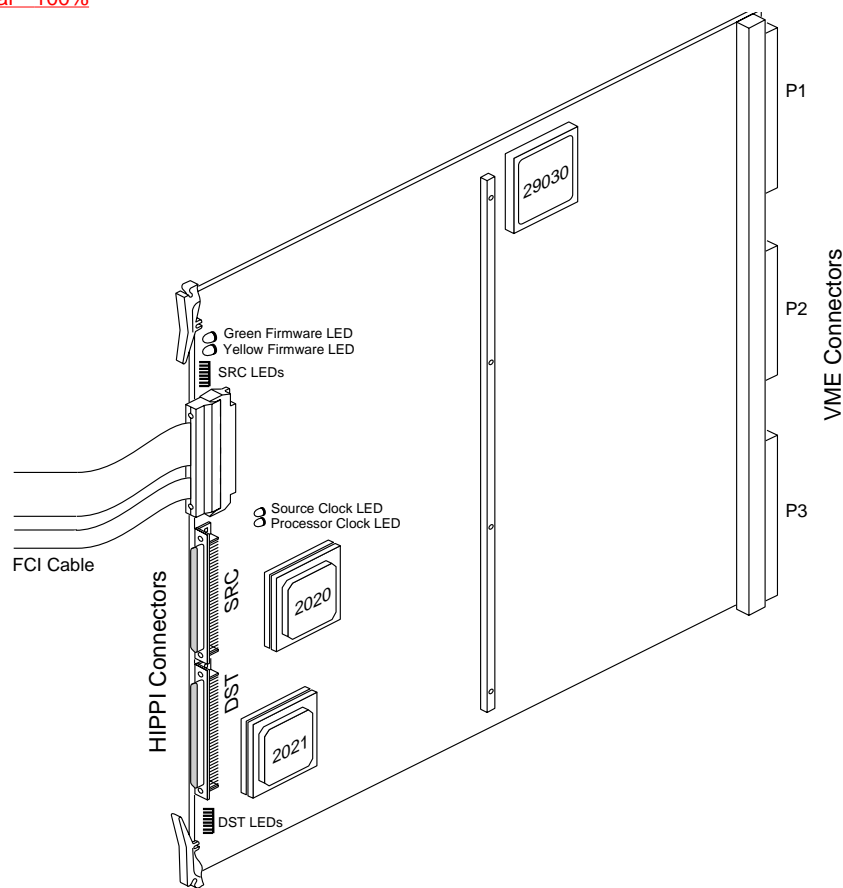

Figure 2-13 IRIS HIPPI Board
1. Hold the HIPPI board vertically so that the HIPPI and FCI connectors face you, the VMEBus connectors face away from you, and the side of the board with the most components faces to your right, as shown in Figure 2-13.